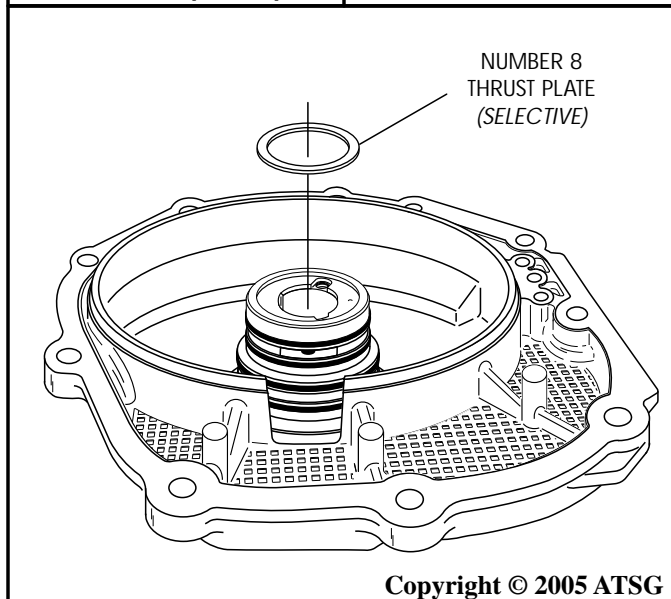

Figure 187
70. Install number 8 selective thrust plate onto the rear cover, as shown in Figure 187, and retain with small amount of Trans-Jel®.
74. Change the selective plate as necessary to obtain the proper specification, using the chart in Figure 187.